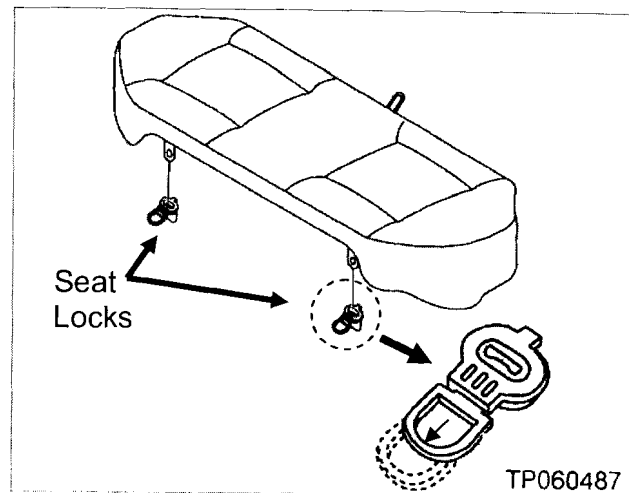

Figure 2
- a. Pull the two seat locks shown in Figure 2.